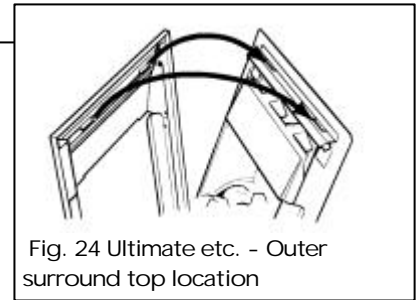

Fig. 24 Ultimate etc. - Outer surround top location
9.1.1 Pick up the outer surround. Locate the two lugs at the top of the front surround in the slots in the upper case support strip (See figure 24). Swing the bottom of the surround sides back against the convection box and lower the surround so that the lugs are fully seated in the slots in the convection box hood.